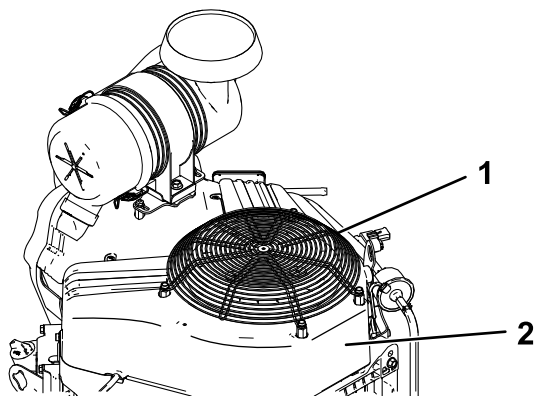

Figure 61
3. Remove the air-intake screen and fan housing (Figure 61).
5. Install the air-intake screen and fan housing (Figure 61).